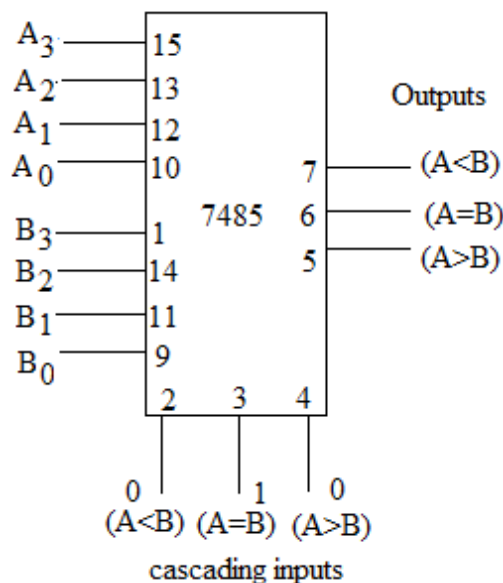

Fig. 2: 4-bit Comparator
1. Connections are made as per the Fig. 2 using IC 7485.